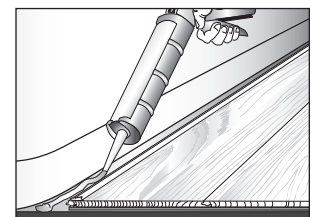

Figure 11
- Place the row of planks to be fit on top of the last row of installed planks. Use a piece of the plank as a scribe to trace the contour of the wall (Fig. 11).
- All perimeter expansion zones must be filled and sealed with 100% silicone caulk following the manufacturer's recommendations. When applying caulk, it is helpful to first apply a strip of painter's tape (Scotch® Delicate Surface Painter's Tape 2080) parallel to and approximately 1/32" (.79 mm) from the edge of the flooring (Fig. 11). Then fill the expansion zone with caulk, remove the excess with a plastic scraper or putty knife and remove the tape.